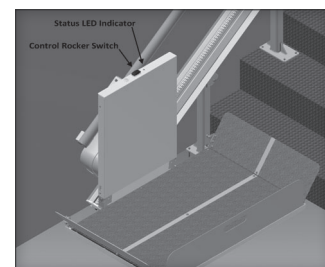

Figure 8-3
**15. Plug the harness on the shroud** into the harness at the top of the platform mount. Route the two ramp cables through the two slots on either side of the shroud then secure the shroud with the four screws on the sides. [Figure 8-3]